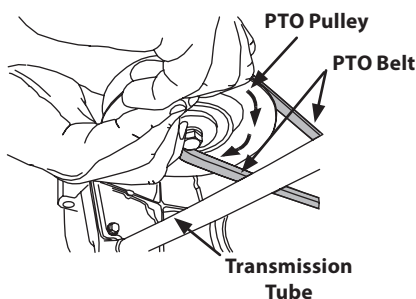

Figure 4-18
- d. While still holding the belt downward, continue turning the PTO pulley until the belt is rolled off the pulley. Refer to Figure 4-18.
11. Pull the right side of the belt rearward and place the narrow 'V' side of the belt into the PTO pulley. See Figure 4-18.
12. While holding the belt and pulley together, rotate the pulley to the left (See Figure 4-18). Continue holding and rotating the pulley and belt until the belt is fully rolled into the PTO pulley.